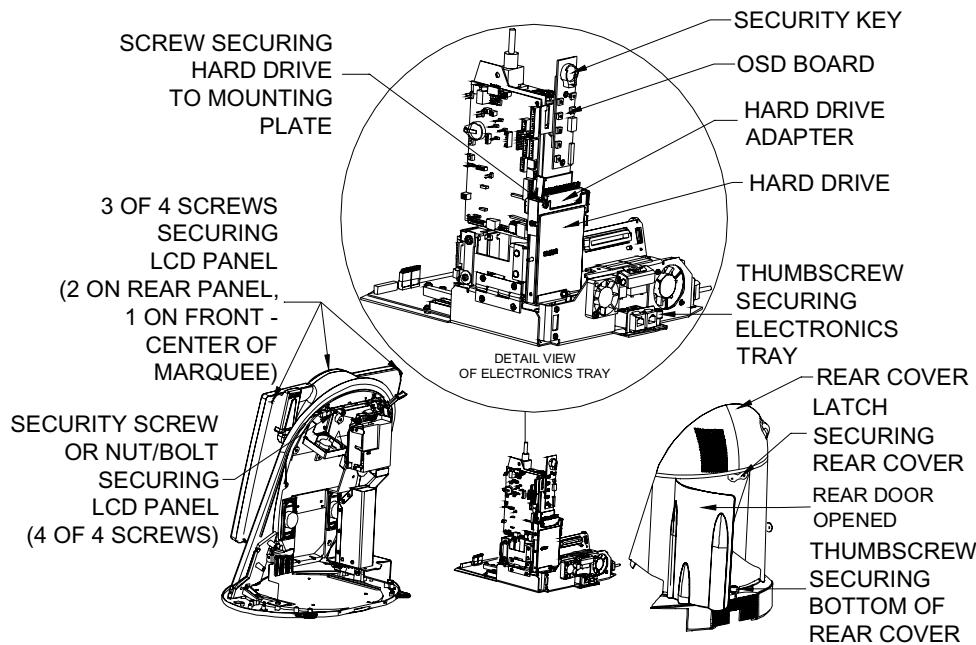

FIGURE 8 - REAR VIEW OF AURORA GAME
7. Remove the screw securing the hard drive mounting bracket to its mounting plate (see Figure 8) and slide the hard drive up and off the mounting plate.
11. Locate the security key (the button-shaped disc with the handle) on the OSD board (see Figure 8). Remove the existing security key from the OSD board by sliding it out of place. Replace it with the supplied security key.